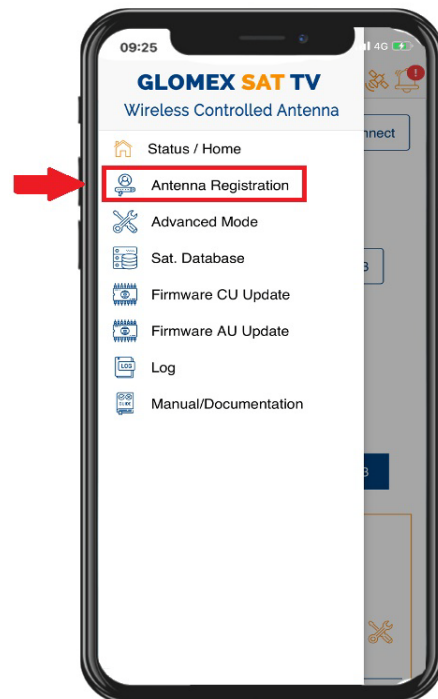

Fig. 34
- Click on "Antenna Registration" (Fig. 34).